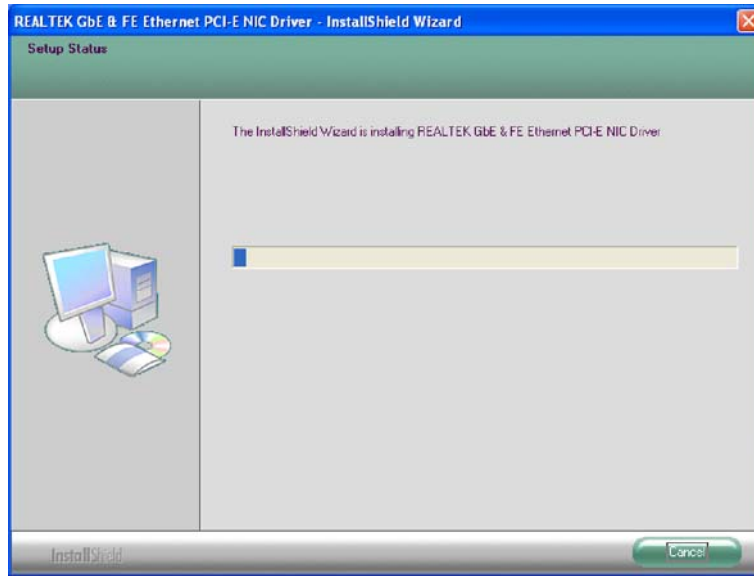

Figure 7-15: LAN Driver Installation
Step 39: The installation progress can be monitored in the progress bar shown in Figure 7-15.